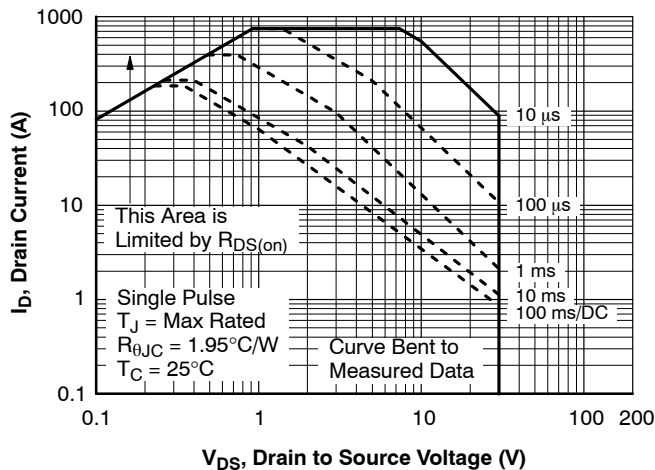

Figure 11. Forward Bias Safe Operating Area
4. Pulsed I_d please refer to Figure 11 SOA curve for more details.